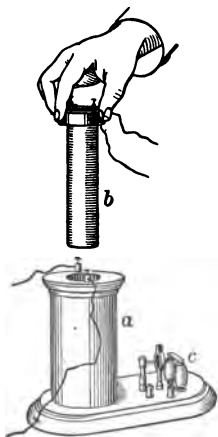

FIG. 212
In its simplest form, an induction coil consists of two coils of insulated wire so arranged that one may fit into the other. One of these coils (*a*, Fig. 212) is connected with a battery; this one is called the *primary coil*. The
other may be in circuit with any device through which the modified current is to pass; it is called the *secondary coil*. The secondary coil is in a certain sense similar to the armature of a dynamo; it is the place in which the changed current is to be formed (*b*, Fig. 212).
(3) *The current in the primary may be rapidly made and broken.* The part *c* in Fig. 212 is a device for performing this; it is called a "make-and-break piece."